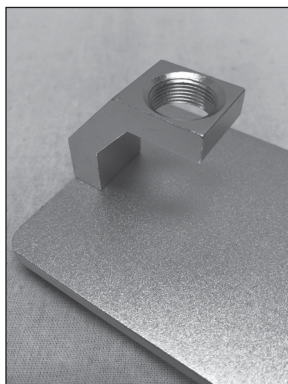
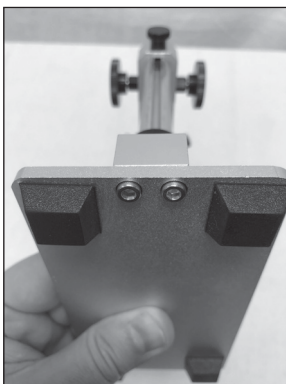

Figure 4. The base flange assembled in the correct orientation.
Figure 5. The base flange attaches with these two allen screws. Use a 3mm allen wrench.
1. First, attach the base flange to the edge of the flat base in the proper orientation using the two allen screws (**Figure 4**). You'll need a standard 3mm allen wrench to full tighten down the flange (**Figure 5**).